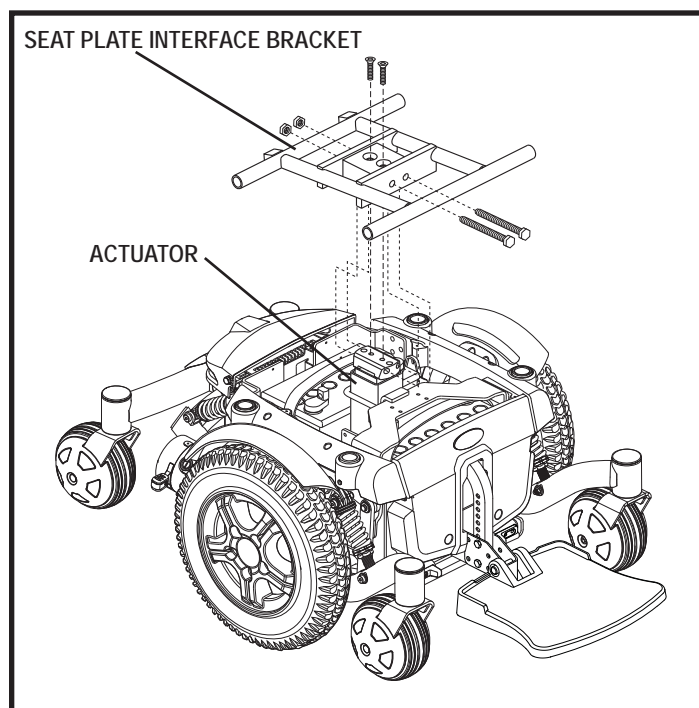

Figure 10. Power Seat Actuator
1. Place the seat plate interface bracket onto the actuator. **See figure 10.**
2. Insert screws into the actuator and insert and tighten the hardware. **See figure 10.**